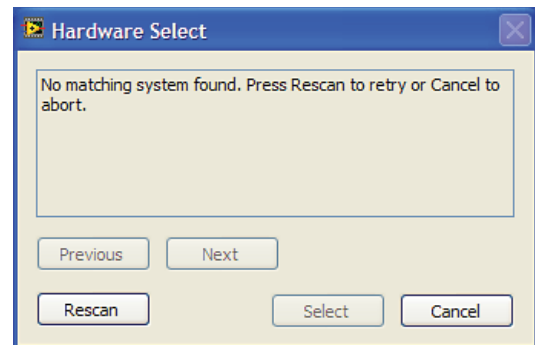

Figure 2. Connectivity Error Alert
2. If the evaluation system is not connected to the USB port when the software is launched, a connectivity error displays (see Figure 2). Connect the evaluation board to the USB port of the PC, wait a few seconds, click **Rescan**, and follow the instructions.